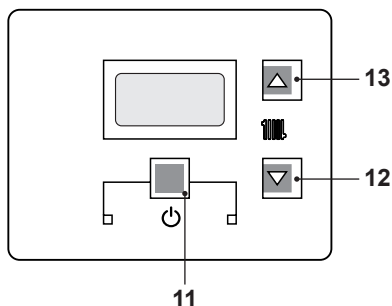
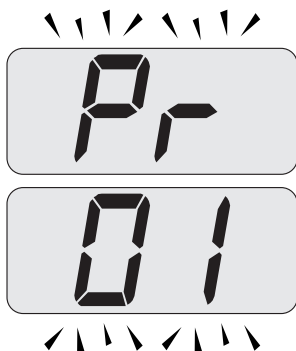
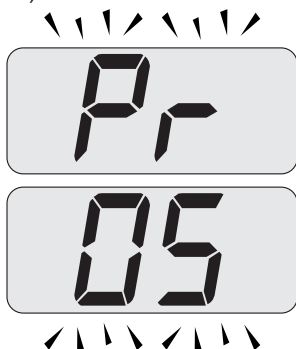

Fig. 8.3
Fig. 8.4
Fig. 8.5
- Enter in "programming mode" by pressing keys 11 - 12 - 13 (Fig. 8.3) for 10 seconds at the same time until the letters **Pr** that alternate with code **01** are displayed on the LCD display, indicating that "parameter 01" (Fig. 8.4) has been activated.
- Scroll the various parameters using keys 12 or 13 until the letters **Pr** that alternate with code **05** are displayed on the LCD display, indicating that "parameter 05" (Fig. 8.5) has been activated.
- By pressing key 13 three times, it is possible to change the value of parameter 05 from **00**=G20 to **05**=G31, which is ok for LPG gas.
- By pressing key 11 (Fig. 8.3) confirmation of the inserted value is obtained.
- Press keys 11 and 12 (Fig. 8.3) at the same time to exit without changing the value (return to the parameters list Fig. 8.5).
- Press keys 11 - 12 - 13 (Fig. 8.3) at the same time for 10 seconds to exit the "programming mode".
- Press keys 11 and 13 (Fig. 8.3) at the